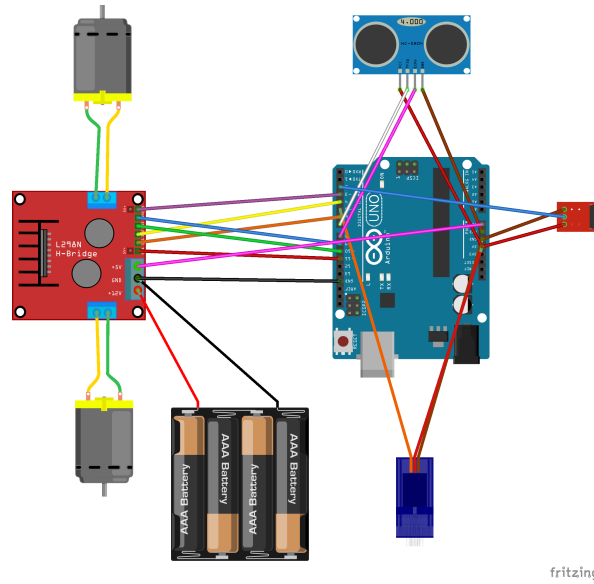

Figure 1: Initial design schematic.
The robot has four main external components that need to be configured: The servo, the sonar (ultrasonic sensor), the drivetrain (DC motors), and the (IR) receiver. They are connected to the Arduino UNO as seen in Figure 1